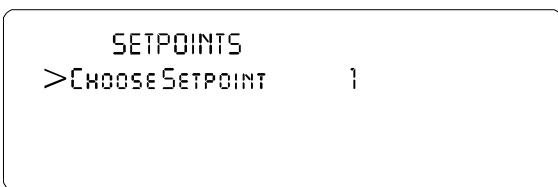

FIG. 3-12 SETPOINTS MENU/CHOOSE SETPOINT
Step 2. Press the Enter button. The Setpoints Menu appears. (See Fig. 3-12)